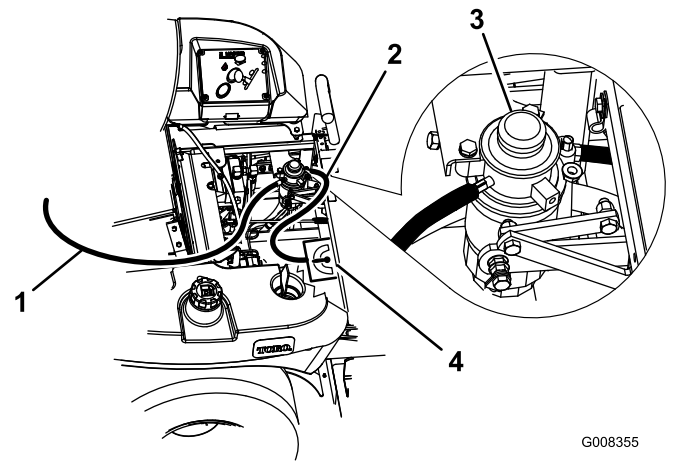

Figure 2
8. Locate the hose between the water separator and the fuel selector valve. Remove the fuel hose from the fuel selector valve (Figure 2).
9. Locate the hose between the water separator and the fuel selector valve. Remove the fuel hose from the engine (Figure 2). Remember the location where the fuel hose was connected to the engine.